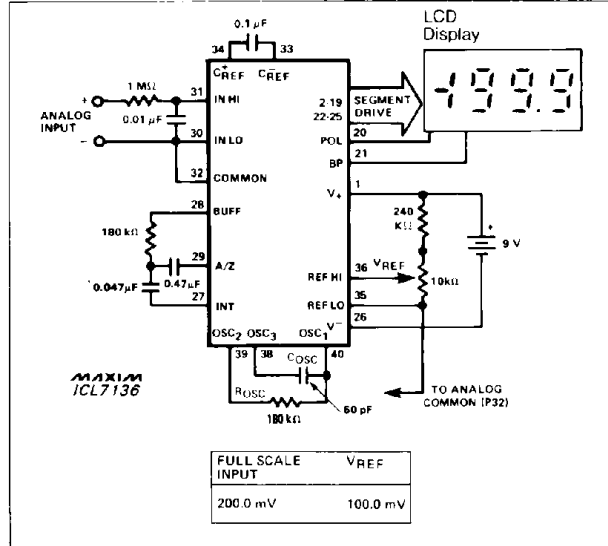

Figure 2. Maxim ICL7136 Typical Operating Circuit
**Note 6:** 48kHz oscillator, Figure 2, increases current by  $20\mu\text{A}$  (typ).